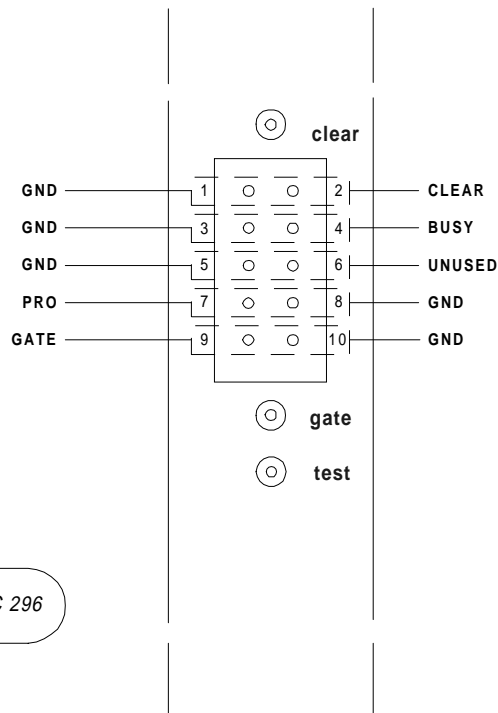

Fig. 2.1 – Output flat cable-type connector: pin assignment
N.B.: It is possible to connect CLEAR and GATE to more than one Mod. C 205 in daisy-chain: the CLEAR and GATE inputs on the last Mod. C 205 in the chain must be terminated by inserting a 50 Ω termination resistor between pins 1 and 2 of the 5+5 pin flat cable type connector for the CLEAR and between pins 9 and 10 for the GATE (see Fig. 2.1, p.10).
5+5 pin flat cable-type connector (see Fig. 2.1, p.10 for pin assignment).
N.B.: *When GATE pulses are sent in rapid succession, they may occur during a conversion. To avoid this, never activate the GATE signal during the conversion time (1.6 ms per 32 channels). Use the BUSY output signal (refer to Fig. 2.1, p.10) to inhibit the GATE signal source.*